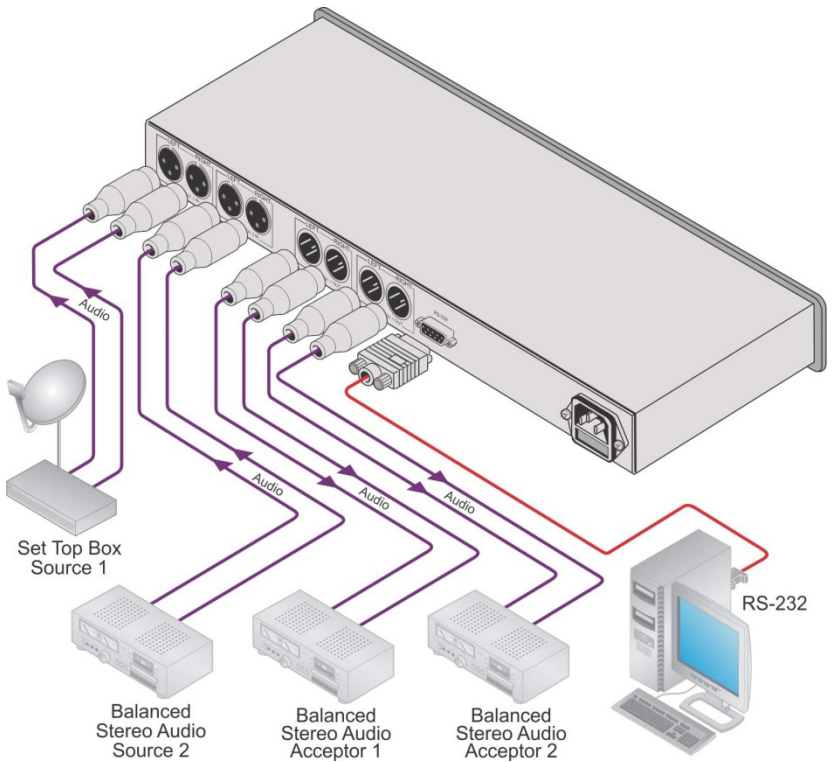

Figure 3: Connecting the VA-4 Dual Channel Balanced Stereo Audio Amplifier
To connect the **VA-4** as illustrated in the example in Figure 3:
6. Connect the power cord to the mains electricity (not shown in Figure 3).